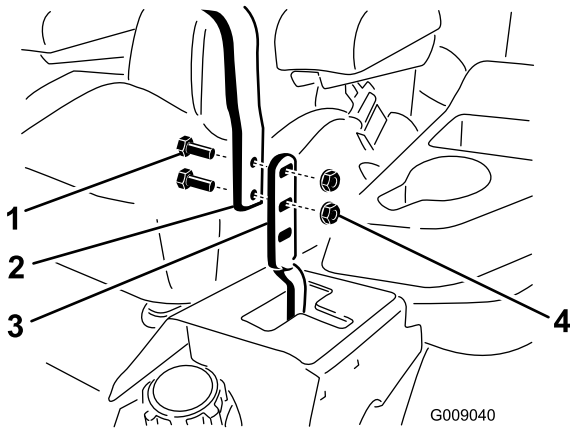

Figure 61
3. Loosen the bolts and flange nuts installed in the levers (Figure 61).